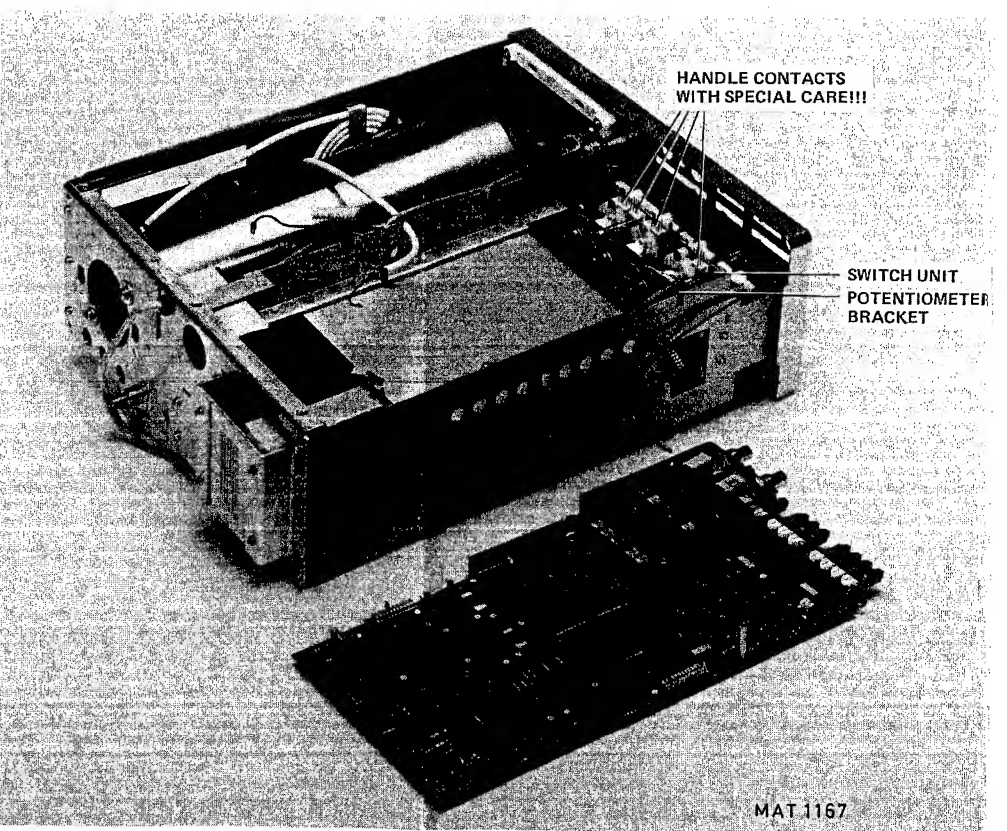

Fig. 6.6. Pre-ampl. and trigger unit removed
- CHECK THAT THE CONTACTS AND THE POSITION-PINS OF THE SWITCH UNIT ARE FREE FROM THE PRE-AMPLIFIER AND TRIGGER UNIT IN ORDER TO PREVENT THAT THE CONTACTS ARE BEND IF THE UNIT IS TAKEN OUT OF THE INSTRUMENT (see fig. 6.6.).